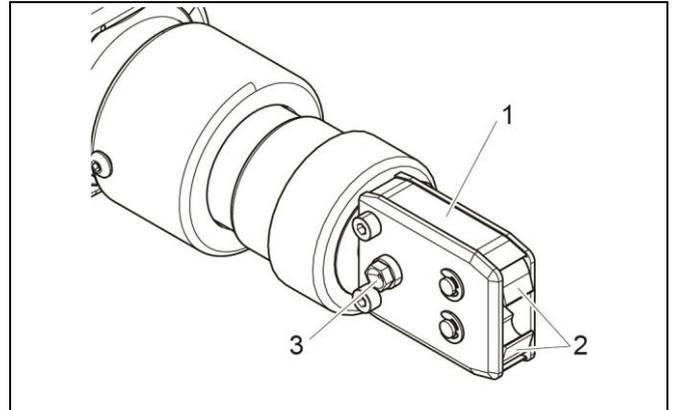

Fig. 24: Lubricating the pincer head
2. Grease the pincer head (Fig. 24/1) via the grease nipple (Fig. 24/3) using a grease gun with special lubricant RENOLIT LX-EP 2 (RENOLIT Duraplex EP 2).
3. Check pincer jaws (Fig. 24/2) for wear and breaks at the clamping points, exchange if necessary (see tool catalog for part no.).